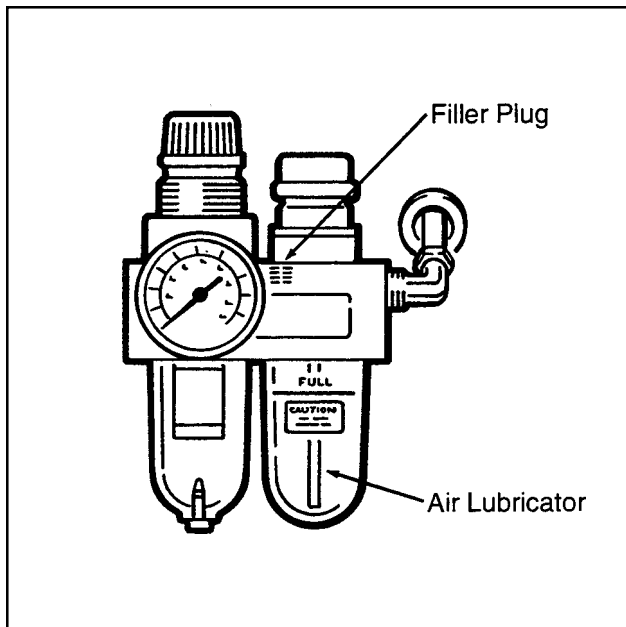

Figure 3-1 – Air Lubricator
2. Fill lubricator bowls on both applicators with U.S.P. heavy mineral oil or SAE #5 or #10 non-detergent oil. Remove oil filler plug, fill bowl to FULL line and replace filler plug. See Figure 3-1.